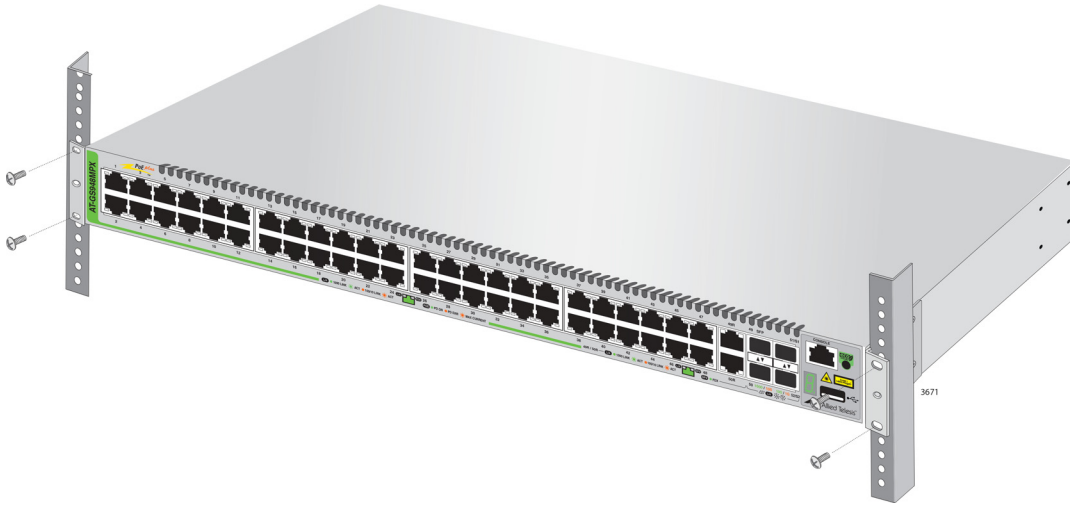

Figure 22. Mounting the Switch in an Equipment Rack
5. While another person holds the switch in the equipment rack, secure it with standard equipment rack screws (not provided), as shown in Figure 22.